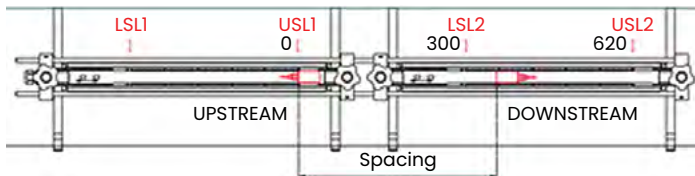
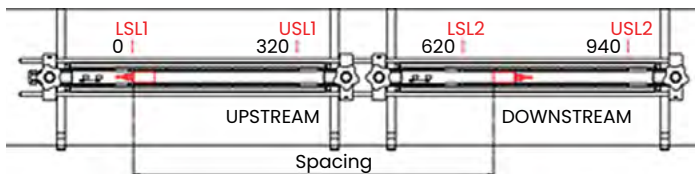

Figure 17: Transducer spacing of 320 to 620 mm with two fixtures
Figure 18: Transducer spacing of 620 to 940 mm with two fixtures
5. See figure 17 and figure 18 below for examples of a completed installation in the following situations: